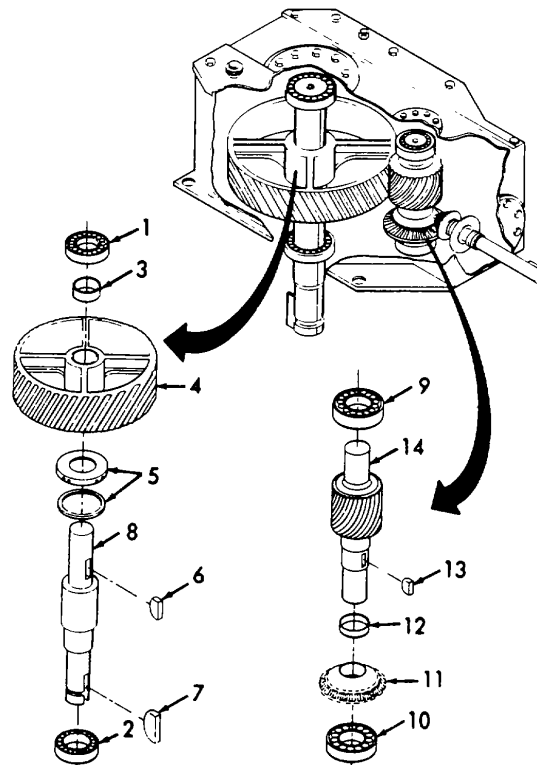
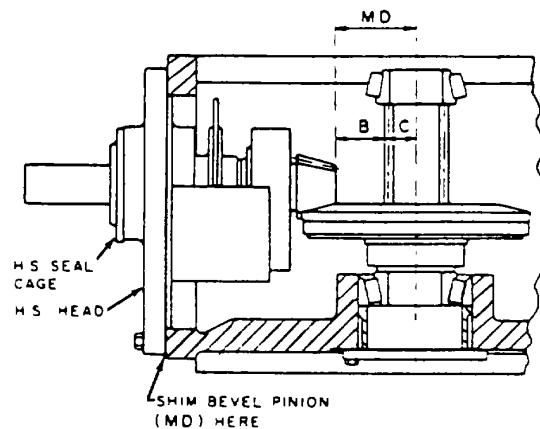

Figure 3-104. Speed Reducer Low Speed and Intermediate Shafts.
Figure 3-105. Bevel Pinion Measurement.
- (9) Remove eight bolts (24), eight lockwashers (25), cover (26), and shim gasket (27).
- (10) Remove eight bolts (28), eight lockwashers (29), cover (30), and shim gasket (31).
- (11) Remove eight bolts (32), eight lockwashers (33), cover (34), and shim gasket (35).
- (12) Remove breather (36) and dipstick (37).
- (13) Remove six bolts (38), six lockwashers (39), and oil distributor (40).
- (14) Remove thirteen bolts (41) and thirteen lockwashers (42). Attach two eye bolts to cover. Attach a sling to the eye bolts. Attach a lifting device capable of lifting 150 lbs (68.20 Kg) and remove cover (43).
- (15) Remove eight bolts (44), eight lockwashers (45), cover (46), and shim gasket (47).
- (16) Remove eight bolts (48), eight lockwashers (49), cover (50), and shim gasket (51).
- (17) Remove eight bolts (52), eight lockwashers (53), cover (54), shim gasket (55), seal (56), gasket (57), and seal (58).
- (18) Refer to figure 3-104 and attach a sling to the low speed gear. Attach a lifting device capable of lifting 150 lbs (68.10 Kg) and remove assembled low speed shaft assembly.
- (19) Press bearing (1 and 2) off of shaft (8).
- (1) Refer to figure 3-104 and install key (13) and spacer (12) on shaft (14).
- (2) Preheat bevel pinion (11) in an oil bath or an oven to a maximum of 375°F (191°C), press bevel pinion (11) onto shaft (14).
- (3) Preheat bearings (10 and 9) in an oil bath or an oven to a maximum of 275°F (135°C), press bearings (10 and 9) onto shaft (14).
- (4) Install assembled intermediate shaft in housing.
- (5) Install keys (7 and 6), seal ring (5), and spacer (3) on shaft (8).
- (6) Preheat gear (4) in an oil bath or an oven to a maximum of 375°F (191°C), press gear (4) on shaft (8).
- (7) Preheat bearings (2 and 1) in an oil bath or an oven to a maximum of 275°F (135°C), press bearings (2 and 1) on shaft (8).
- (8) Attach a sling and lifting device capable of lifting 150 lbs (68.10 Kg) and install assembled low speed shaft in housing, making sure gears (14 and 4) teeth mesh.
- (9) Install shim gasket (51) and cover (50) and secure with eight lockwashers (49) and eight bolts (48). Torque bolts to 255 lb-in (29.02 Nm).
- (10) Install shim gasket (47) and cover (46) and secure with eight lockwashers (45) and eight bolts (44). Torque bolts to 255 lb-in (29.02 Nm).
- (11) Install key (18) on shaft (16). Wrap shim stock around shaft and mount in vise.
- (12) Preheat bevel pinion (17) in an oil bath or oven to a maximum of 275°F (135°C), press bevel on shaft (16) and secure with nut (15).
- (13) Preheat bearings (20) in an oil bath or oven to a maximum of 275°F (135°C), press bearings (20) and slinger (21) on shaft (16).
- (14) Install assembled high speed shaft in housing. Install shim gasket (23) and cover (22) and secure with thirteen lockwashers (14) and thirteen bolts (18). Torque bolts to 640 lb-in (62.80 Nm).
- (15) Install ring (12), seal (11), and cage (10) and secure with four bolts (9). Torque bolts to 255 lb-in (29.01 Nm).
- (16) Refer to figure 3-105 and measure the dimension from the toe of bevel pinion to the outside diameter of the intermediate helical pinion or shaft. Record this value as (B).